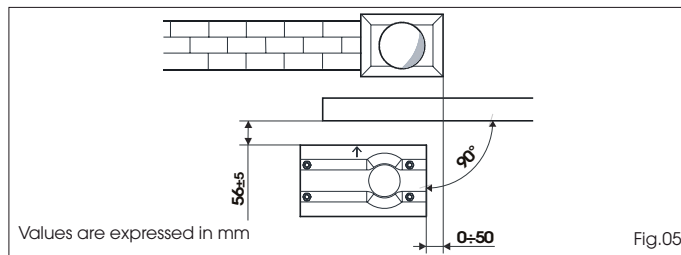
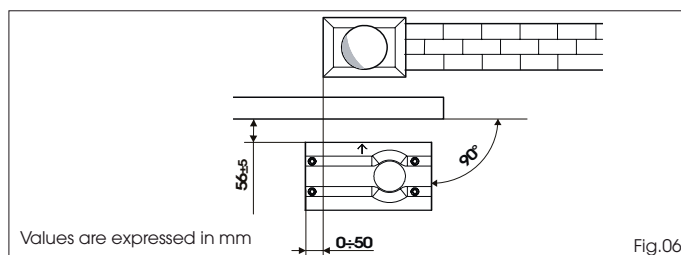

Fig.05
Fig.06
- 2- In order to ensure that the pinion and rack engage correctly, the foundation plate must be positioned as shown in Fig. 05 (right closing) or Fig. 06 (left closing).